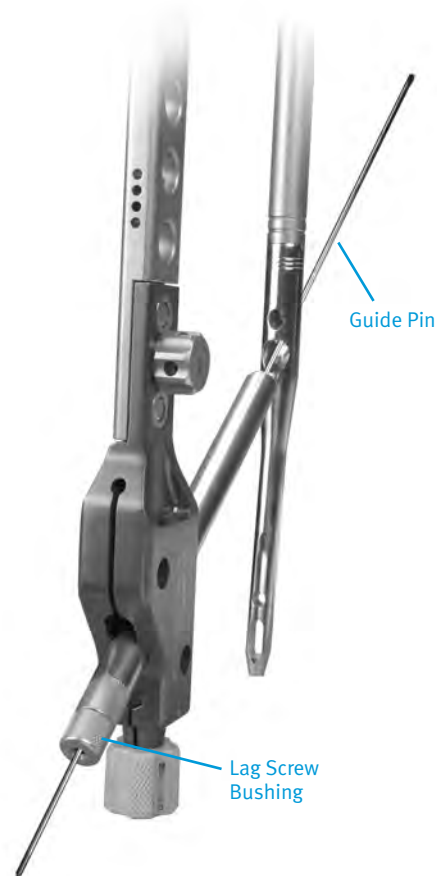

Fig. 18
**NOTE: Prior to inserting the implant, insert the two sets of Drill and Screw Bushings into the appropriate holes in the Targeting Guide. Slide a drill or guide pin through the Bushings, and through the screw holes in the implant to assess correct instrument assembly (Fig. 18).**